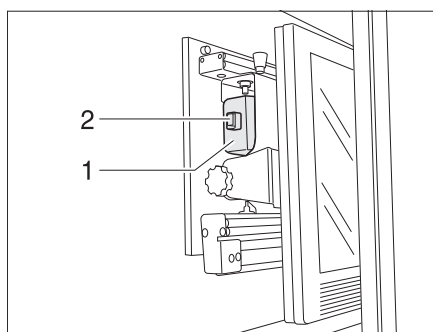

Fig. 8 Holder in the TV cabinet
- Rotate the television to its initial position (Fig. 8) and lock it into place.
- Use handle (Fig. 8,1) to push the holder for the flat screen backwards. The latch (Fig. 8,2) will engage.